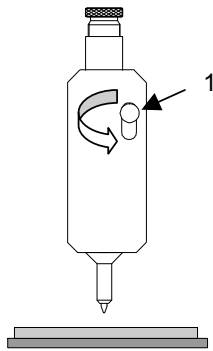

Abb. 1
- Loosen clamp screw (Fig. 1/1) and insert pen.